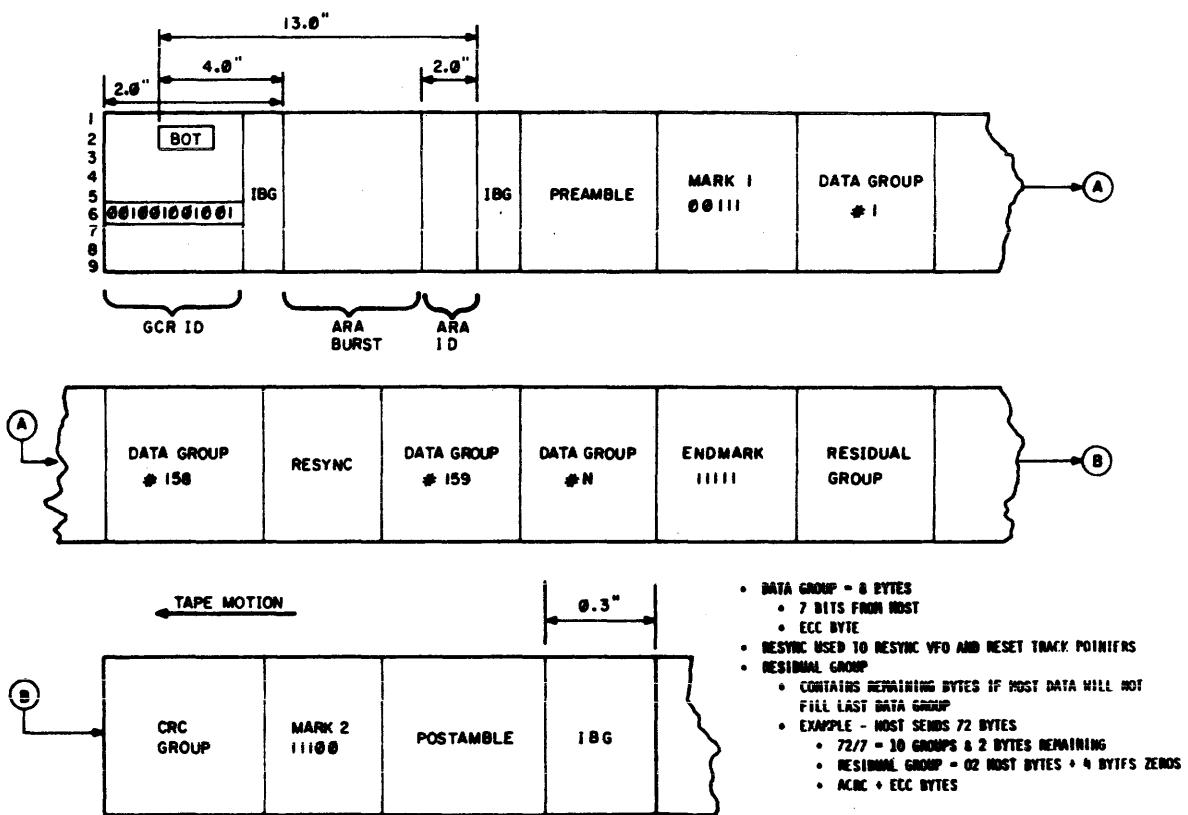

Figure 4-29. GCR TAPE FORMAT
**4.9.3.2 GCR Data Block Format** - The GCR data format requires not only preamble and postamble patterns, but also data conversion into groups, for each of which an Error Correcting Code (ECC) clearance is generated. Also, Cyclic Redundancy Checks (CRC's) and Auxiliary Cyclic Redundancy Checks (ACRC's) are added to the data to facilitate detection and correction of errors. Resynchronizing bursts are added for transfers over 1106 bytes to enable the read detection logic to resynchronize (see Figure 4-29).